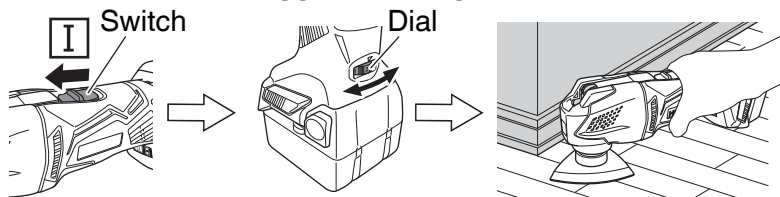

Fig. 10
1. Switch the unit on and use the dial to set the speed of the application tool.(Fig. 10)
2. Lightly place the application tool on the material and move the application tool back and forth at a pace where the movement isn't slowed. (Fig. 10)